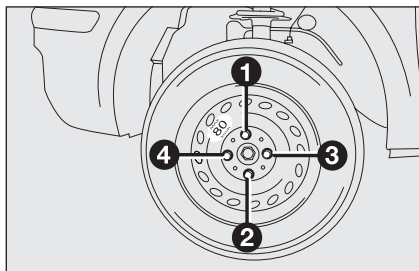

fig. 9
- ☐ fully tighten the bolts, passing alternatively from a bolt to the opposite one, following the order shown in **fig. 9**.